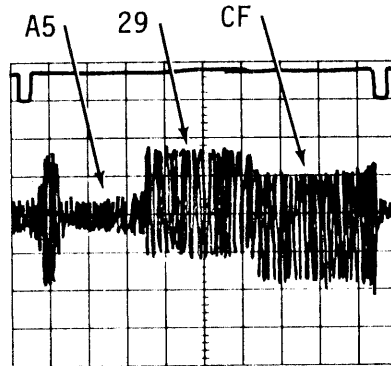

Figure A3-11. Peak Shift Check
**A3.6.5 Peak Shift Check (Figure A3-11)**
2. If required, execute a Write command with the write buffer set to the combination of 29 and CF, i.e., 50 bytes of 29, 50 bytes of CF, etc., throughout the buffer. Figure A3-11 is based on A5, 29, CF buffer of approximately 170 bytes each.